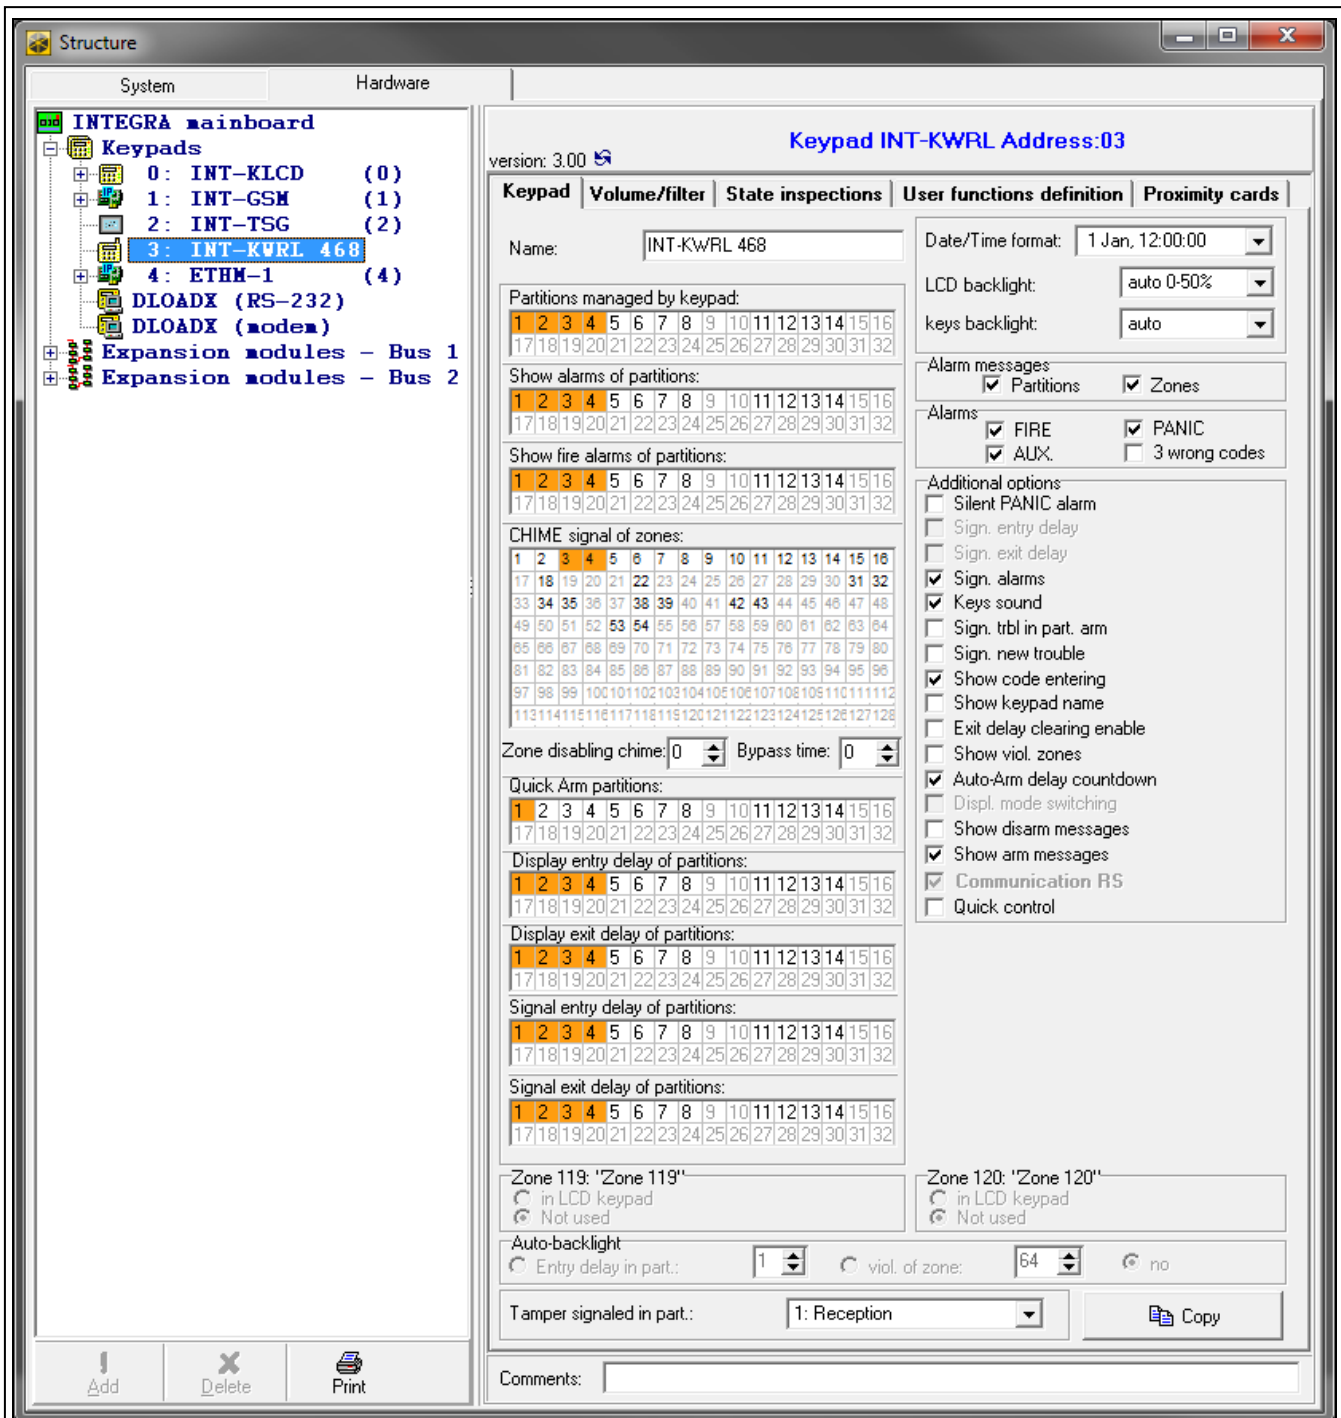

Fig. 7. DLOADX program: keypad settings stored in the control panel – “Keypad” tab.
- DLOADX program: →“Structure” window →“Hardware” tab →“Expansion modules” branch →[keypad name] (see Fig. 7),